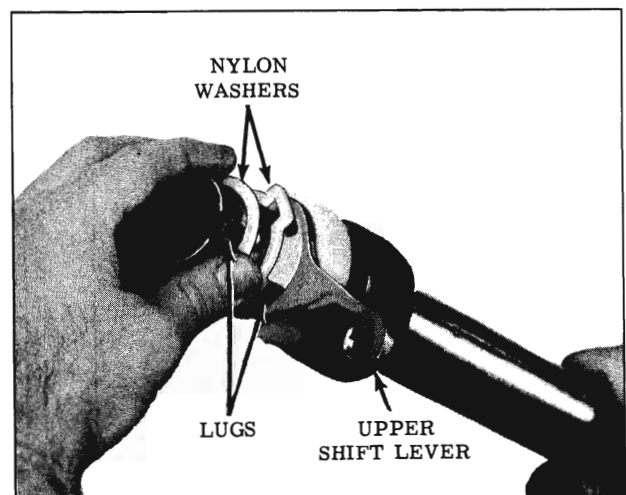

Fig. 4-295 Removing Upper Shift Lever
19. Push the nylon bearing onto the shift tube far enough to clear the second lug and rotate the bearing so that the bearing holds the spring in compression. (Fig. 4-295)